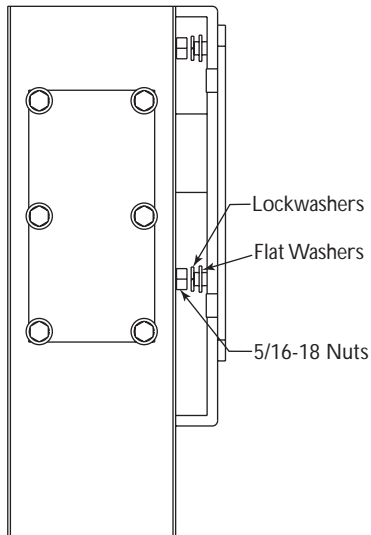

Figure 10 Attaching the Adapter Plate
2. Attach the LTC 9540/xx Wall Bracket adapter plate, using the provided hex head nuts and bolts, flat washers, and lockwashers (see Figure 10).